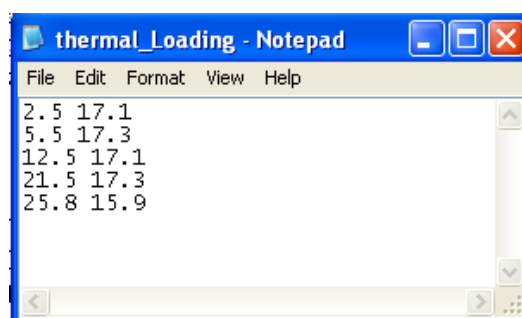

Fig. 13 Notepad; txt file containing the thermal loading, column 1: depth, column 2: thermal loading
2) Create a text file containing the given changes of temperature as showed in Figure 13, with the depths in column 1 and the corresponding temperatures in column 2. The two columns are separated by a blank space. The name of the text file can be chosen arbitrary; here it's called “thermal_Loading”.